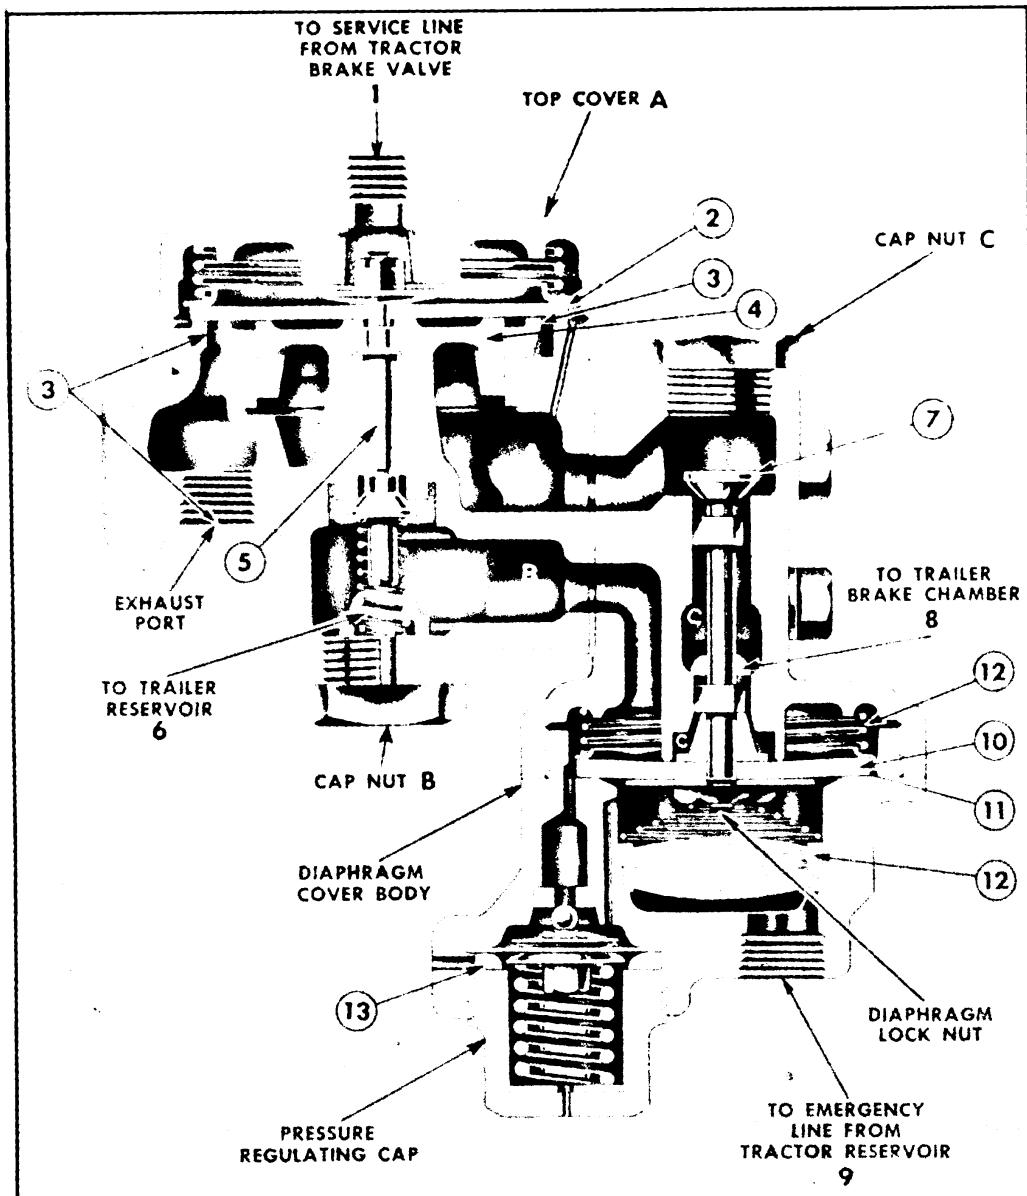
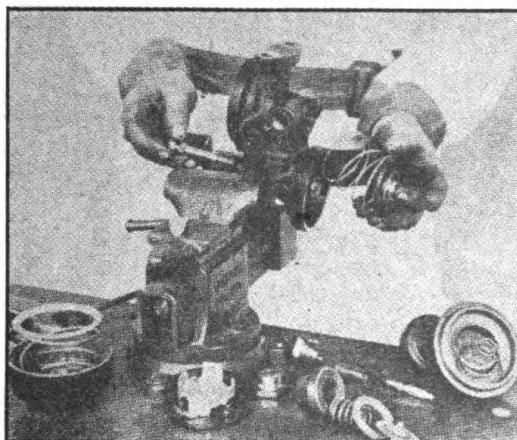
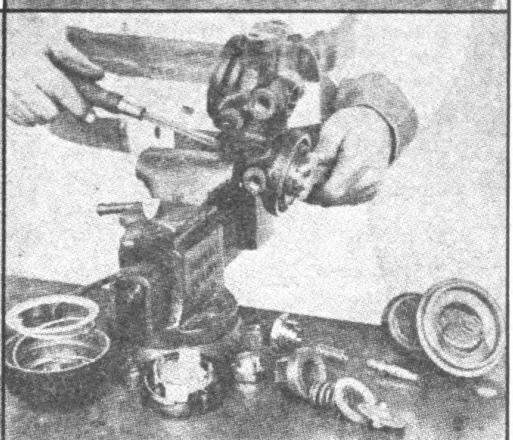

FIGURE 36. RELAY EMERGENCY VALVE.
FIGURE 44. PULLING OUT VALVE AND DIAPHRAGM
FIGURE 43. REMOVING LOCK NUT FROM VALVE STEM
#### 14. RELAY-EMERGENCY VALVE (Figure 36).—a. *General*.—
(1) This trailer is equipped with two relay valves which are located at rear of trailer, ahead of rear underconstruction. They are bolted to longitudinal members.
(2) These relay-emergency valves are identical in construction and are interchangeable.
b. *Function* (Figure 36).—(1) The relay-emergency valve serves as a relay station to speed up the application or release of the trailer brakes and also provides a means of automatically applying the trailer brakes in case the trailer breaks away from the tractor.
(2) Fundamentally, its function is to operate so as to deliver and maintain the same air pressure in the trailer brake chambers as the brake valve on the tractor delivers to it.
c. *Operation* (Figure 36).—(1) The operation of the relay-emergency valve is dependent upon the air pressure delivered to it by the brake valve on the tractor.
(2) This brake valve pressure is delivered to the relay-emergency valve through the service line and enters the cavity above the rubber diaphragm through port (1). Because this cavity is small and, there-
(5) *Disassembly*: Diaphragms (2) and (10) should be replaced once a year.
(a) To clean or replace diaphragm (2) (Figure 36) :
(b) Cleaning or replacing intake valve (5) (Figure 36) :
- (c) Cleaning or replacing diaphragm (13) (Figure 36):
(d) Cleaning or replacing diaphragm (10). Washing strainer (12) (Figure 36).
3. Remove cap nut (C) (Figure 36). Insert screwdriver into slotted top of valve and remove diaphragm lock nut (Figure 43). Pull out the valve stem and diaphragm (Figure 44).
(6) *Maintenance* (Figure 36).—(a) The complete valve should be removed from the trailer, dismantled, thoroughly cleaned, and diaphragms (2) and (10) should be replaced at least once a year.
(7) *Leakage tests* (Figure 36): (a) With brakes released, cover exhaust port with soap suds. Leakage is caused by supply valve (5) not seating properly.
(8) *Emergency feature tests* (Figure 36): (a) With full pressure in the trailer reservoir, disconnect emergency line between tractor and trailer. Trailer brakes should apply automatically. This feature should be checked daily.